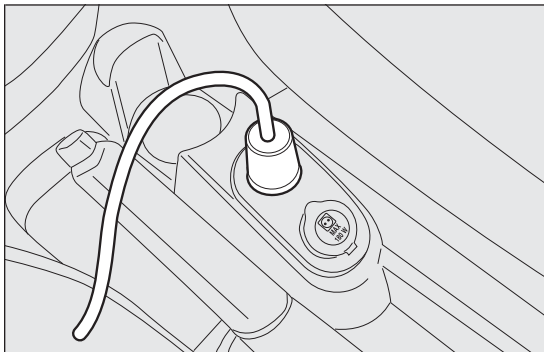
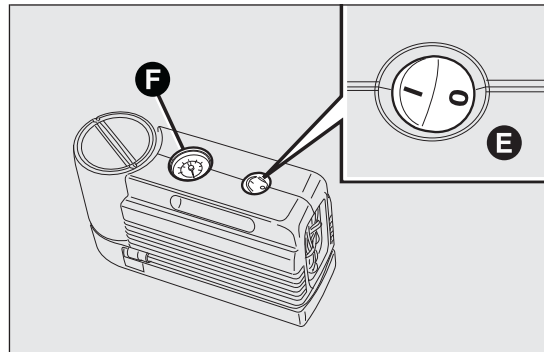

fig. 130
fig. 131
- ☐ make sure that switch E fig. 131 of the compressor is at 0 (off), start the engine, insert plug D fig. 130 in the cigar lighter socket and turn the compressor on by setting switch E fig. 131 to I (on). Inflate the tyre to the pressure specified in the "Cold tyre pressures" paragraph in the "Technical specifications" section. For a more accurate reading, check pressure gauge F fig. 131 with the compressor off;